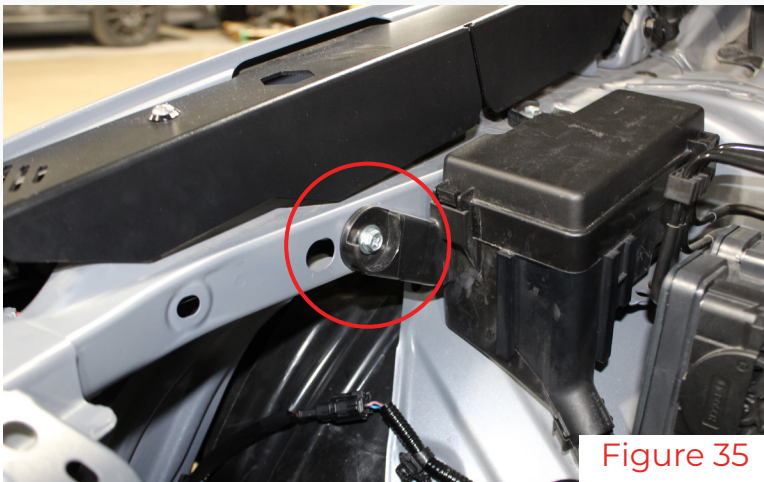

Figure 35
4. Remove the M6 bolt from the fuse box tab (Figure 35 & 36). This will not be reused.